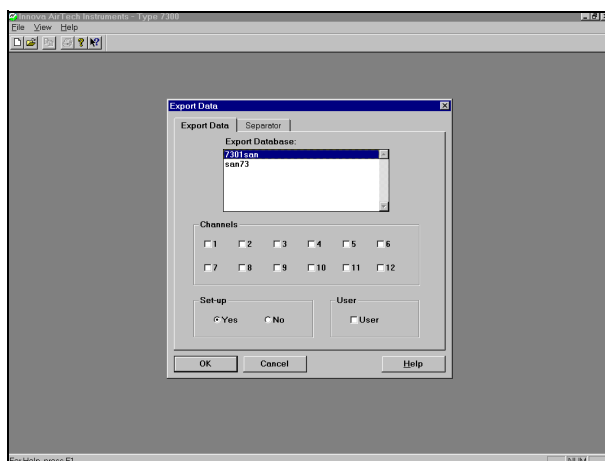

Fig. A.2 The Export Data dialogue
2. Pull down the **File** menu. Click on **Export**. The Export Data dialogue will be displayed, Fig. A.2.